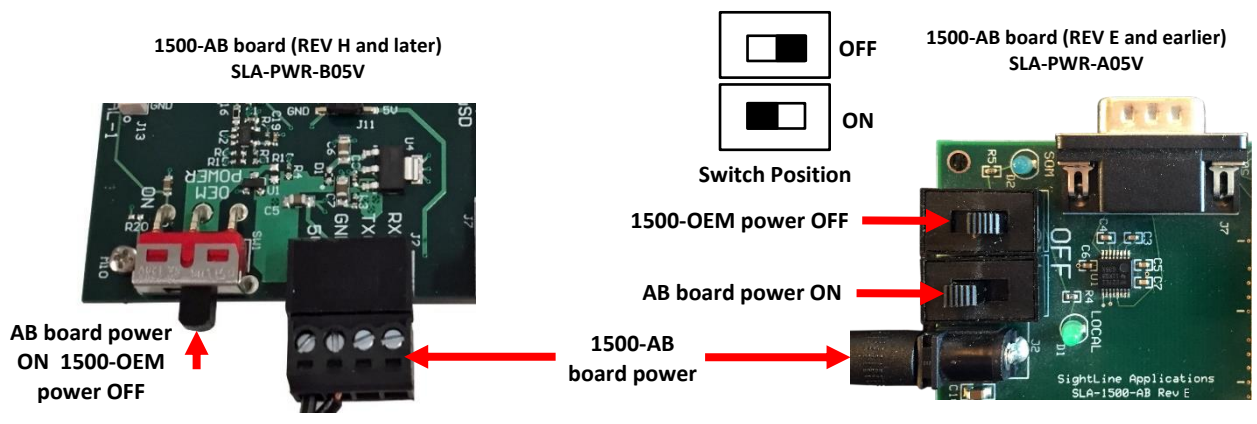
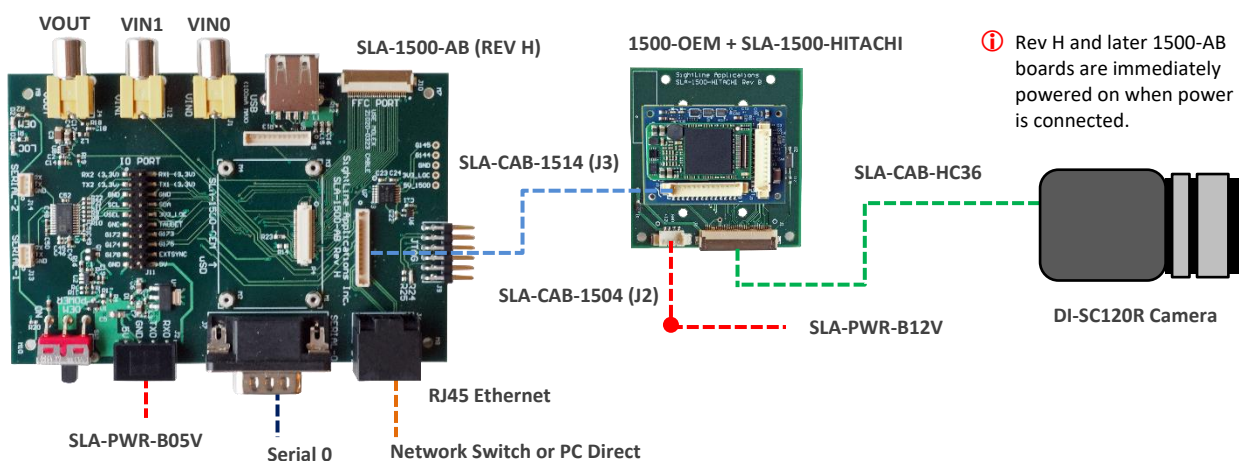

Figure 2: 1500-AB Board Power Connections
Figure 3: 1500-OEM DI-SC120R Camera Bench Setup
REV H and later 1500-AB boards have a single power switch. REV E and earlier boards have a dual power switch. REV H and later boards are immediately powered on when power is connected. If using the 1500-AB board in a bench setup, review Figure 2 and Figure 3 prior to making power connections.
- CAUTION:** Power to the 1500-OEM board is provided through the 1500-HITACHI interface board using the SLA-PWR-B12V power supply shown in Figure 3. Powering the OEM through the J3 power pins and through the 1500-HITACHI board can damage the OEM.
- CAUTION:** DO NOT power up the 1500-OEM board from the 1500-AB interface board. The power switches should be set to the positions shown in Figure 2 (AB board power ON / 1500-OEM power OFF). Long term overpowering will permanently damage the 1500-OEM board.
IMPORTANT: Do not apply power to the 1500-OEM board from the 1500-AB board (see Figure 2).